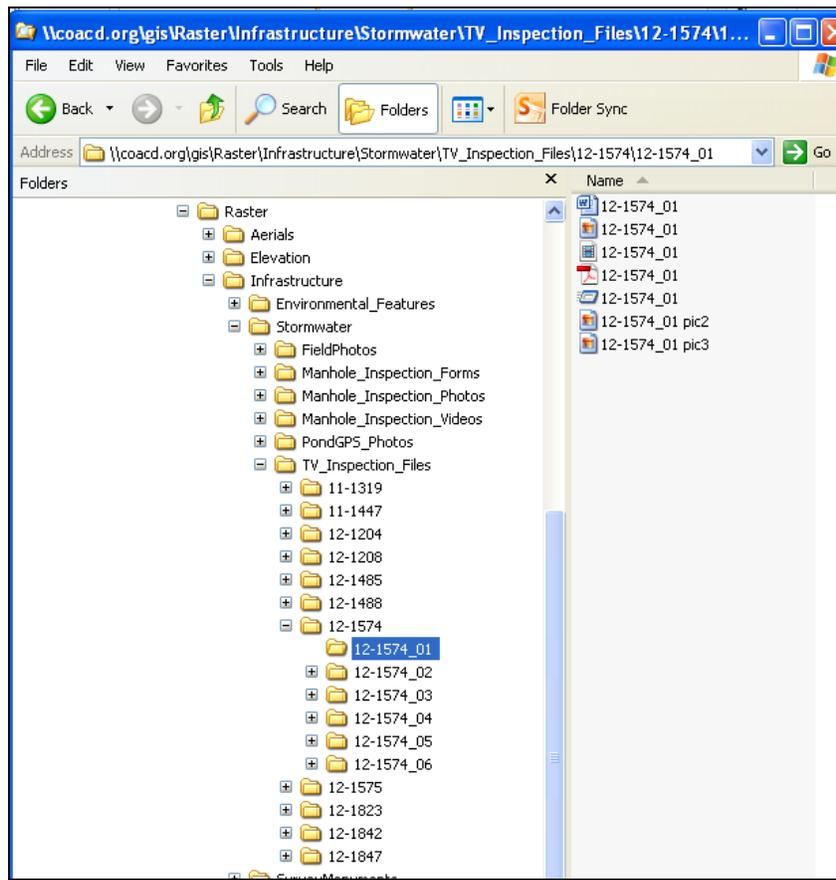

Figure 5.
- a. Each pipe system will be assigned a Maximo number (**12-1574** in Figure 5 below).